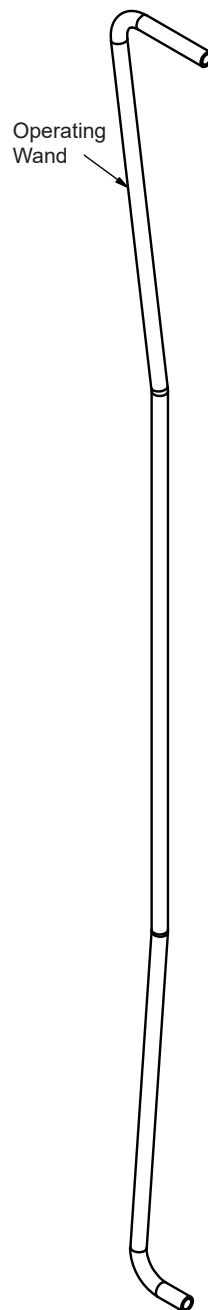

Figure 18
- Ensure bracket is not mounted upside-down or bracket will be unable to hold operating wand (Figure 18).